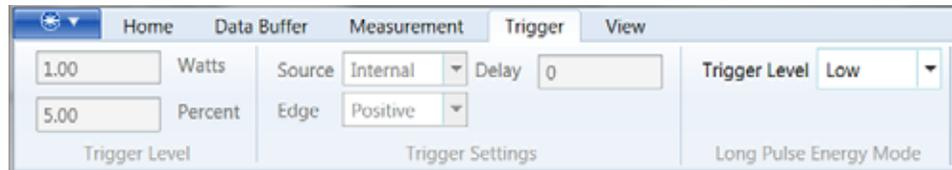

Figure 6-20. LPEM – Select Trigger Level
3. On the on the Trigger tab, go to the Long Pulse Energy Mode section. From the drop-down menu, select the appropriate Trigger level. Figure 6-20 shows an example using the “Low” setting: